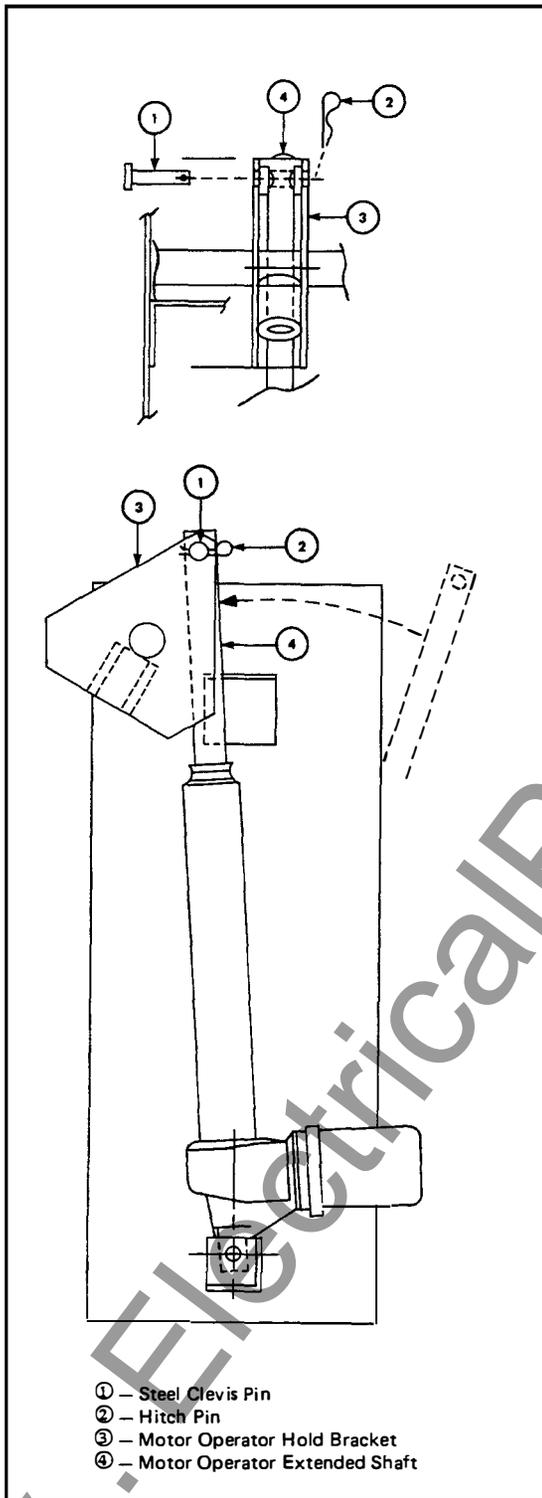

Fig. 22 Manual Operation
8.4 Manual Operation (See Fig.22)